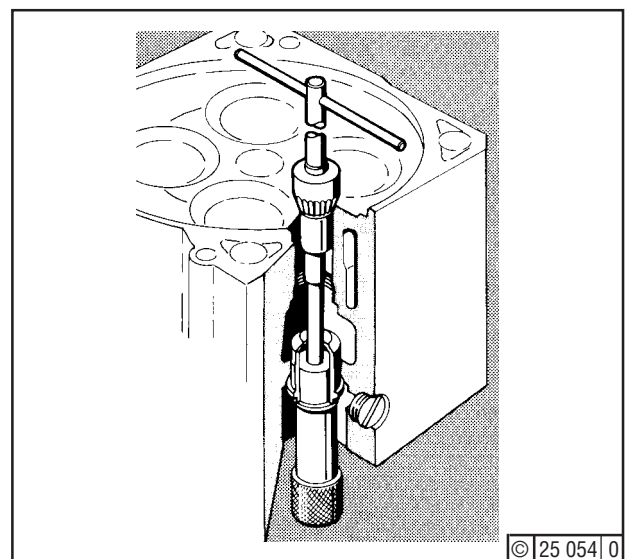

Fig. 2
Inspect valve seat and, if necessary, recondition with milling tool (Fig. 2), then grind in. To grind in, apply an even film of fine grinding-in paste to seat. Equip starting valve (1) with piston (3) to act as guide when grinding in. Turn valve cone with a screwdriver until the entire periphery of the sealing surface presents a shade of matt-grey.